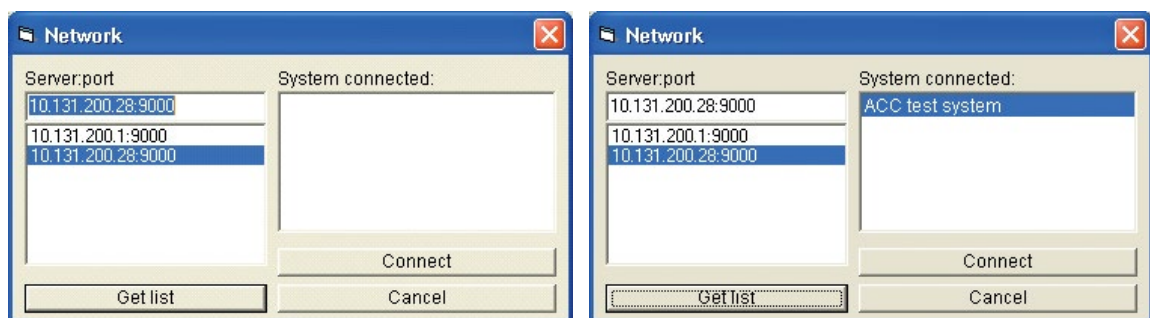

Figure 6.3 - Network
7. Enter the password (1234 by default) and press OK, Figure 6.3.